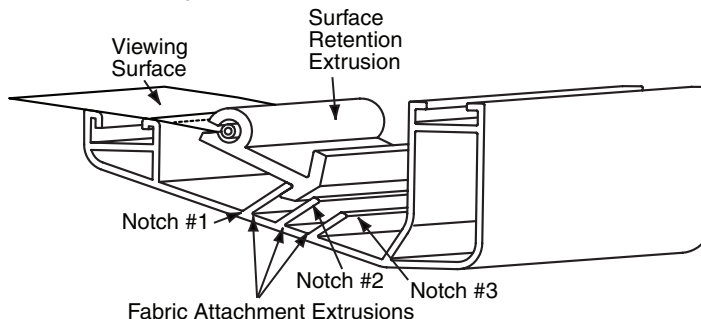

Figure 10
- ① Return frame onto clean surface, face down, and drape completed surface assembly over completed frame profile with rounded edge of surface retention extrusion visible.
- ② Insert any side of surface to notch #1 on corresponding side of frame extrusion (see Fig. 10).
- ① Return frame onto clean surface, face down, and drape completed surface assembly over completed frame profile with rounded edges of surface retention extrusions visible.
- ② Hook surface retention extrusions on any side of surface to notch #1 on corresponding side of frame extrusion (see Fig. 10).
- ③ Repeat on opposite side of surface, again using notch #1.
- ④ Repeat steps 2-3 with remaining edges of surface.
- ⑤ Ensure surface retention extrusions are equally spaced in tension slots on all 4 edges of surface.
- ⑥ If additional tension in certain areas of the screen is desired, adjust surface retention extrusions to notch #2 or #3 as necessary.